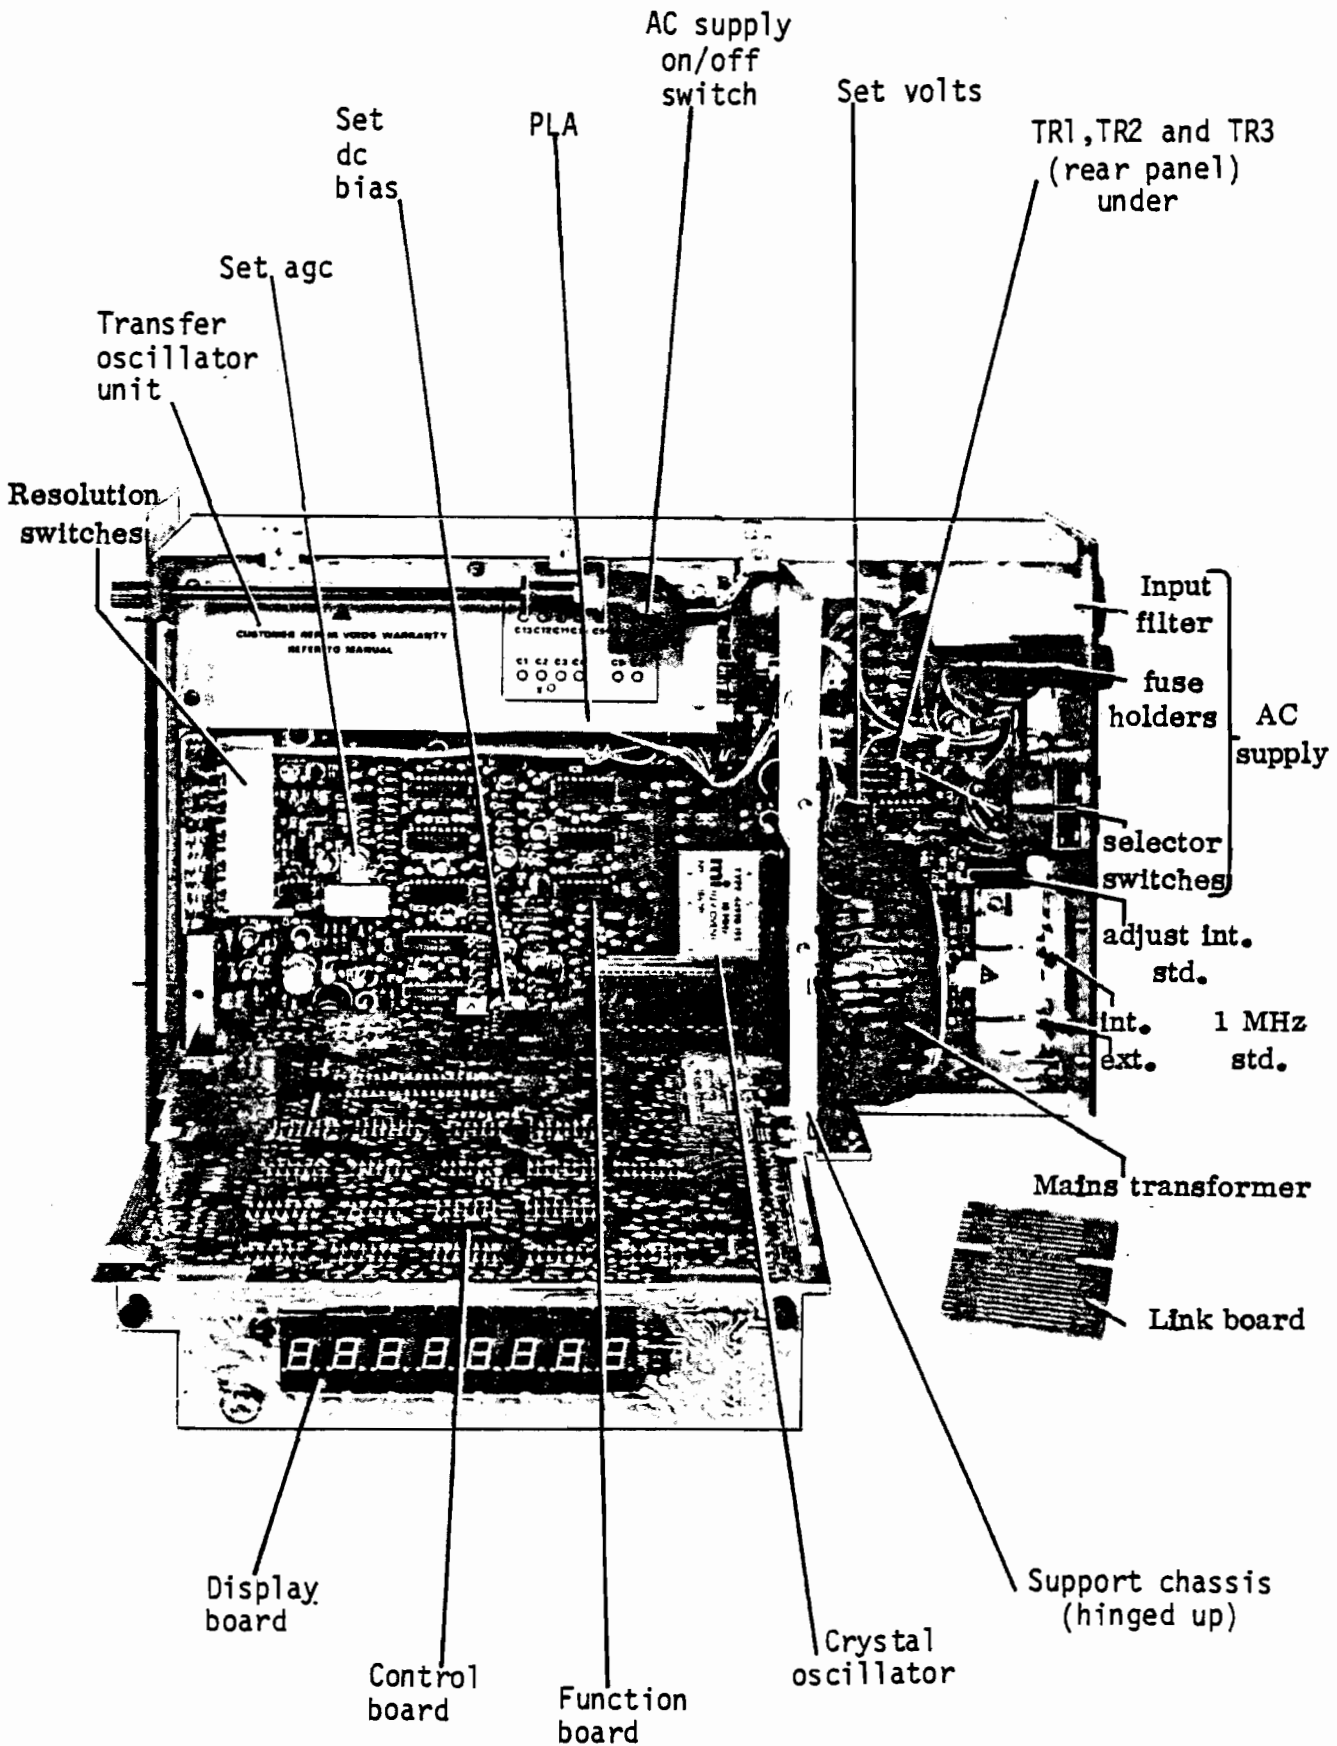

Fig. 1 2435 Internal view, servicing position (amplifier top screen removed).
14. For servicing purposes, the control board/display board assembly can be fitted direct into the edge connector on the function board as shown in Fig. 1, after removing the link board that normally provides the interconnection. (The front panel need not be removed.) The instrument will still operate in this position.
15. TR1, TR2 and TR3, the +5.1 VF, +5.1 VC and +12 VF line regulators, are mounted on the instrument back panel with their connections wired directly to the function board circuits. The remaining power supply components are on the function board below the transformer support chassis. Access to these can be gained by hinging the support chassis forward into a vertical position. (shown in Fig. 1).